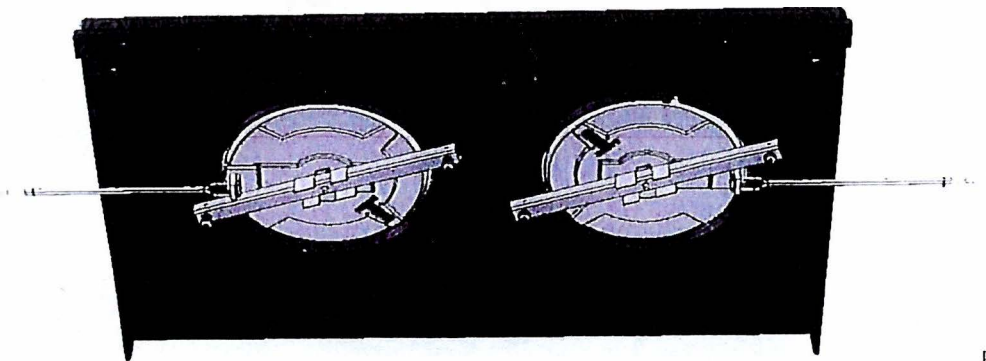

Fig 7
12. Fit the new hotplate into the hob plate in the orientation shown Fig 7.